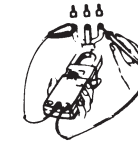

Fig.4
- (2) Set the range switch to the highest Vac range position.
- (3) Connect the test leads to the circuit under test (Fig.4) and read the voltage directly on the scale.